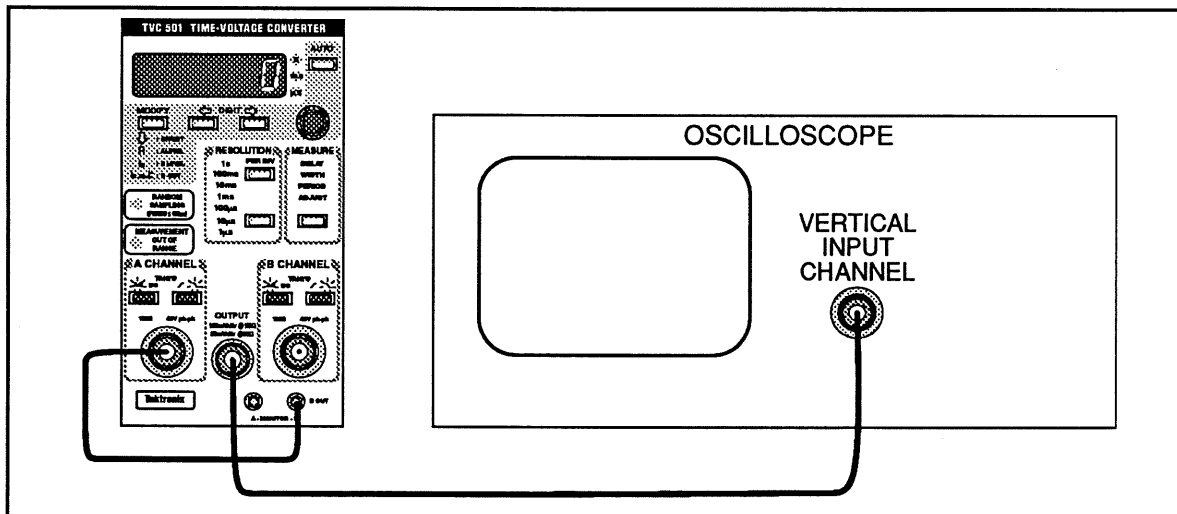

Figure 2-11. B OUT Test.
This procedure verifies that b.out test signals 4 through 8 are functioning properly. Refer to Figure 2-11 when performing this procedure.
15. Using a BNC coaxial cable, connect the **TVC 501 OUTPUT** to an oscilloscope input as shown in Figure 2-11.
This procedure tests the TVC 501 **OUTPUT** rise time using a 50 Ω load and a 1 M Ω load. Refer back to Figure 2-11 when performing this procedure.